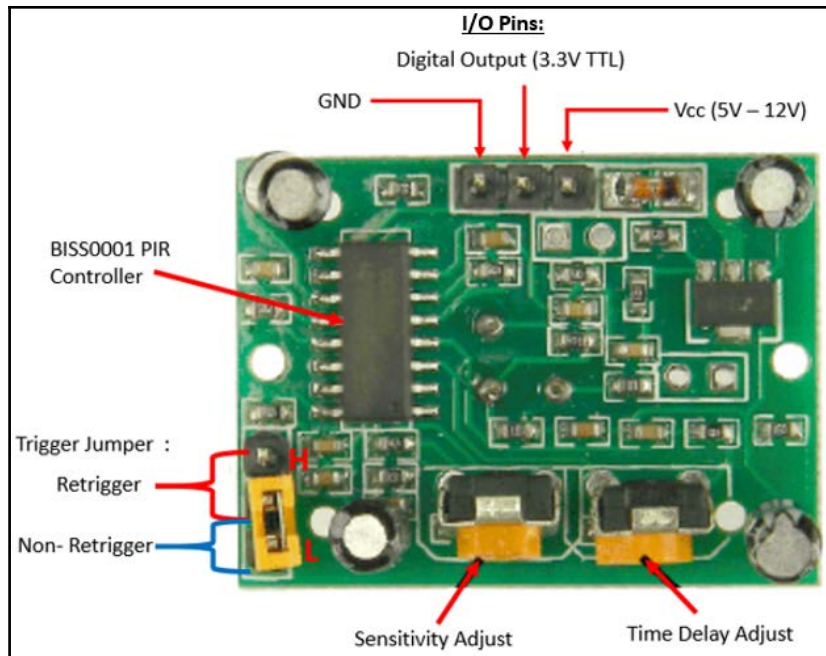

Figure 6.3
Along with the pyroelectric sensor, supporting circuitry is situated on the other side of the module, as shown in *Figure 6.3*:
- Trigger settings include three pins and at any time only two pins are shorted using the jumper. When the pin marked **H** (refer to *Figure 6.3*) is shorted with the middle pin, the sensor works in retrigger mode. In retrigger mode, the PIR sensor gives continuous high output for a certain duration of time when it detects any human body (infrared radiation is emitted from the human body due to body heat). And when the pin marked as **L** (refer to *Figure 6.3*) is shorted with the middle pin, the sensor works in nonretrigger mode. In nonretrigger mode, the PIR sensor's output keeps on switching between high and low when it detects any human body.
- Sensitivity of the PIR sensor can be altered using the **Trimpot** provided on the module and marked as **Sensitivity Adjust** (refer to *Figure 6.3*). When the **Trimpot** is turned in a clockwise direction, the sensitivity is increased and it detects even the slightest movement of a human body (a source of infrared radiation) from a distance of 6 meters or more approximately. And when it is turned in an anticlockwise direction, the sensitivity is decreased and it detects motion within a small range of 2 to 3 meters.